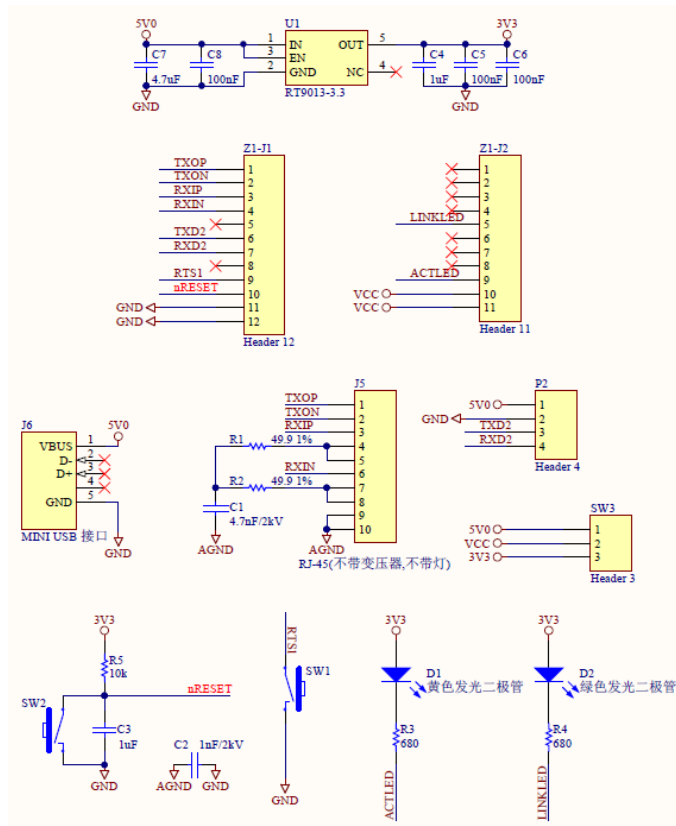

Figure 2-4 W7500S2E-R1 evaluation board reference schematic
• Figure 2-4 shows the reference schematic of the evaluation board for developing reference.